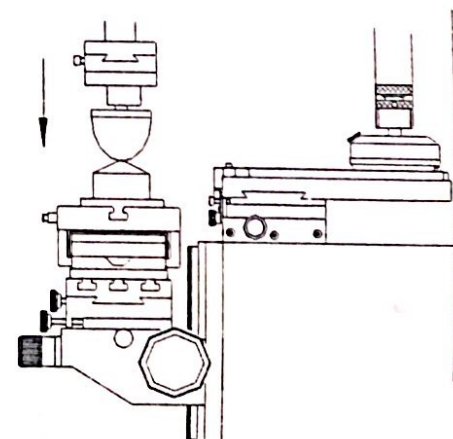

Figure 3
4. Pad printing: To transfer the ink image on pad onto substrate (Figure.3). Ink application and ink scraping are done at the same time.
Figure.3: The pad with ink is first pushed by horizontal cylinder to be over substrate, then perpendicularly pushed by pad cylinder to the surface of substrate so that image ink on pad can be transferred onto it.